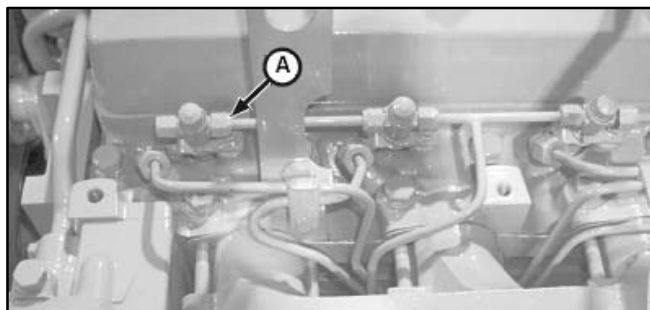

FIGURE 7-14. LOOSENING FUEL LEAK-OFF LINES
1. Loosen tube nuts (A), Figure 7-14, at each nozzle to remove the leak-off lines and T-fittings as an assembly.